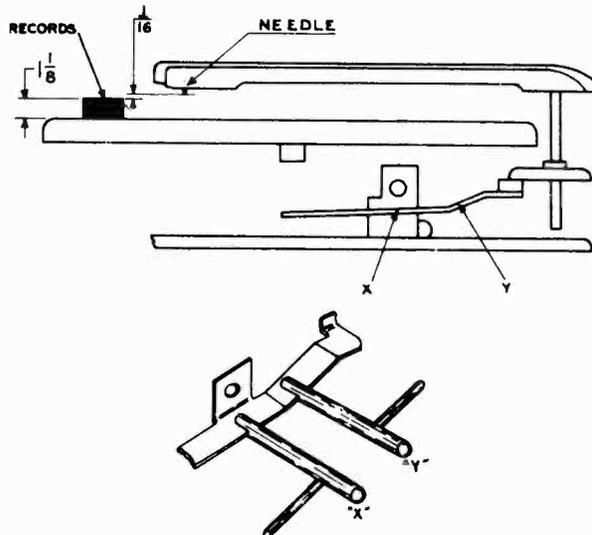

Fig. 4
The vertical movement of the pickup arm is controlled by the angle of the pickup arm raising lever (37 and Fig. 4). The needle should approach the top record of a full stack of 10" records on the turntable with approximately  $\frac{1}{16}$ " clearance.
4. If the needle does not clear the top record or if it raises too high, adjust by bending the pickup arm raising lever (37) at points X and Y as indicated in Fig. 4.